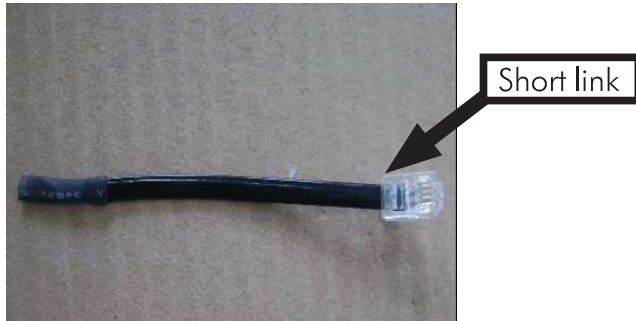
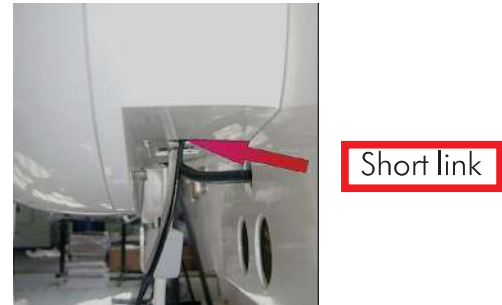

Figure 144
Figure 145
- Take out calibration fixture (short link as shown in Figure 144) from base unit
- Now insert Short link Jig to the J3 connector on power board from the bottom side of the base unit as shown in Figure 144 and Figure 145 . After insertion of Short link Jig clear the area within 10 seconds and then console starts calibration showing "Calibrating" in display with continuous beep sound.
- Now insert Short link Jig to the J3 connector on power board from the bottom side of the base unit. as shown in Figure 144 .